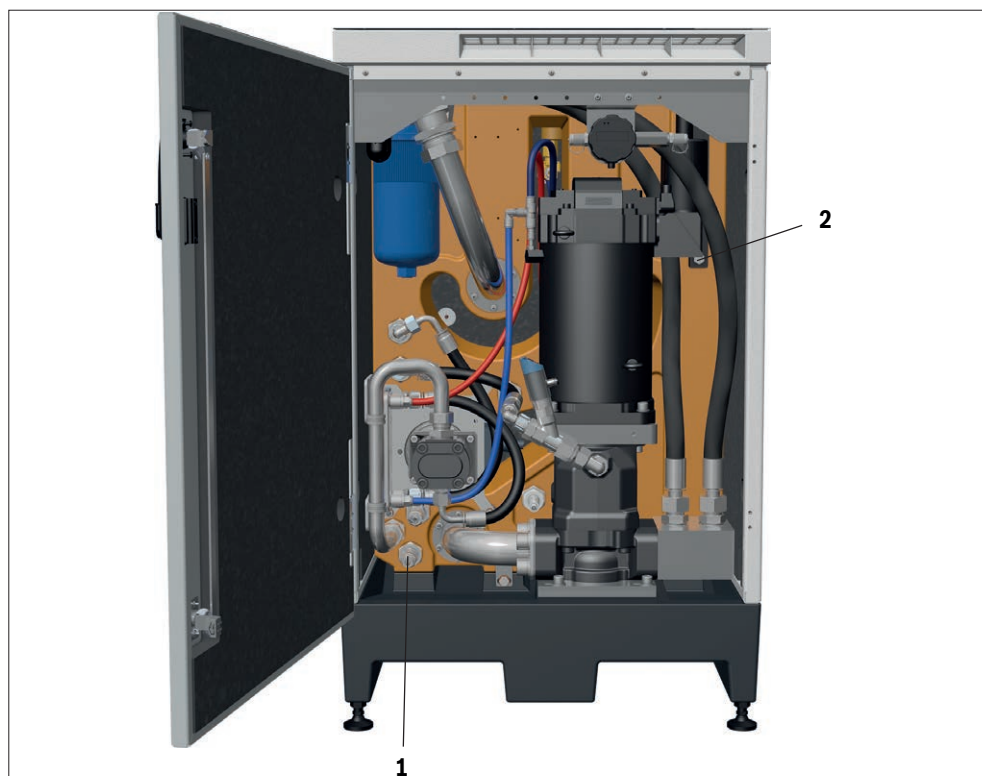

Fig. 30: Filling options
The optimal tank volume of the CytroBox is 100 to 130 liters and can be checked via the oil level display, see Fig. 30, item 1,.
- Open the front door at the bottom and connect a filling unit to the quick-release coupling type CEJN567-G1/2-020-105676200, see Fig. 30, item 2.